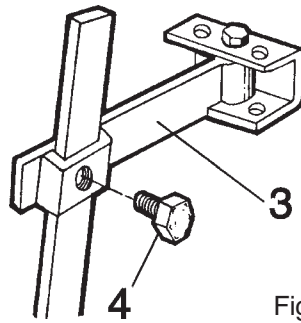

Fig. 4
ASSEMBLY OF THE REAR DRAWBAR (Fig. 4)
- Unloosen screw 4, adjust and screw back on (Fig. 4).